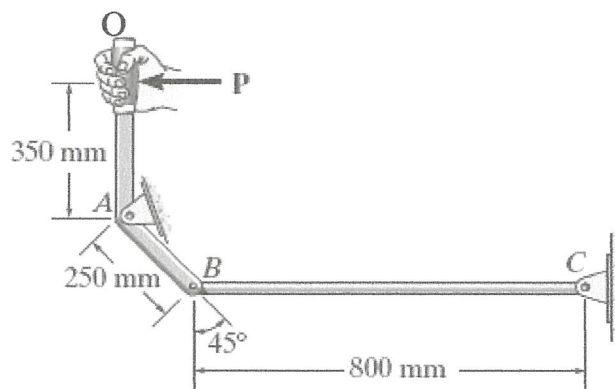

Figure Q3(b)
- (c) Aircraft simulator joystick can be modeled as in **Figure Q3(c)**. The control rod BC has a diameter of 25 mm and is made of A-36 steel. Determine: